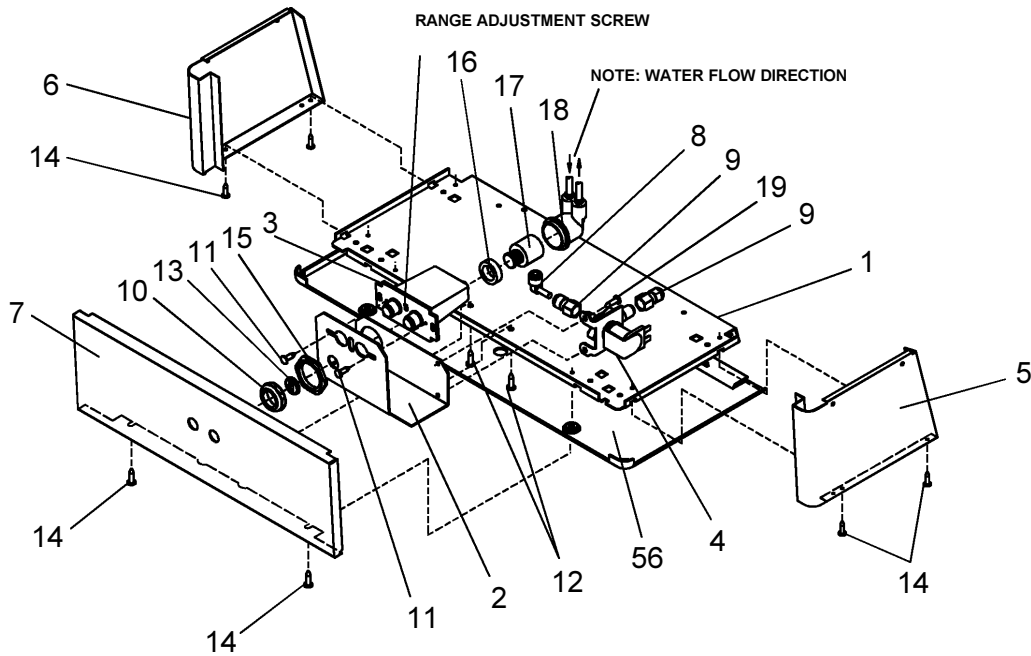

FIG. 3
- Using a small tip screwdriver, rotate range adjustment screw clockwise to increase range and counter-clockwise to decrease range. (See Fig. 3).
- Stream height is factory set at 45-50 PSI. If supply pressure varies greatly from this, readjust stream height to approximately 1-1/2" (38mm) above the bubbler guard by turning adjustment screw, accessible by removing front panel, Item No. 7 (see Fig. 3 & 5).
- Replace the front panel and secure by retightening four (4) screws.